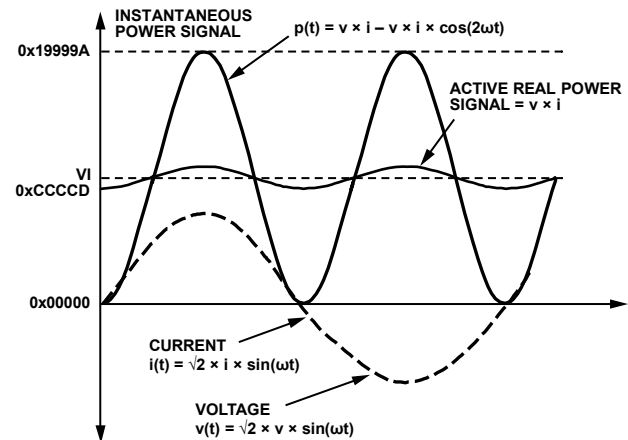

Figure 50. Active Power Calculation
Note that the active power is equal to the dc component of the instantaneous power signal  $p(t)$  in Equation 11, that is,  $VI$ . This is the relationship used to calculate active power in the ADE7566/ADE7569. The instantaneous power signal  $p(t)$  is generated by multiplying the current and voltage signals. The dc component of the instantaneous power signal is then extracted by LPF2 (low-pass filter) to obtain the active power information. This process is illustrated in Figure 50.
The ADE7566/ADE7569 also incorporate an active power offset register (WATTOS[15:0]). It is a signed, twos complement, 16-bit register that can be used to remove offsets in the active power calculation (see Figure 50). An offset can exist in the power calculation due to crosstalk between channels on the PCB or in the IC itself. The offset calibration allows the contents of the
As mentioned in the Active Energy Calculation section, the discrete time sample period (T) for the accumulation register is 1.22  $\mu$ s (5/CLKIN). With full-scale sinusoidal signals on the analog inputs and the WGAIN register set to 0x000, the average word value from each LPF2 is 0xCCCCD (see Figure 50). The maximum positive value that can be stored in the internal 49-bit register is  $2^{48}$  (or 0xFFFF,FFFF,FFFF) before it overflows. The integration time under these conditions when WDIV = 0 is calculated in the following equation: